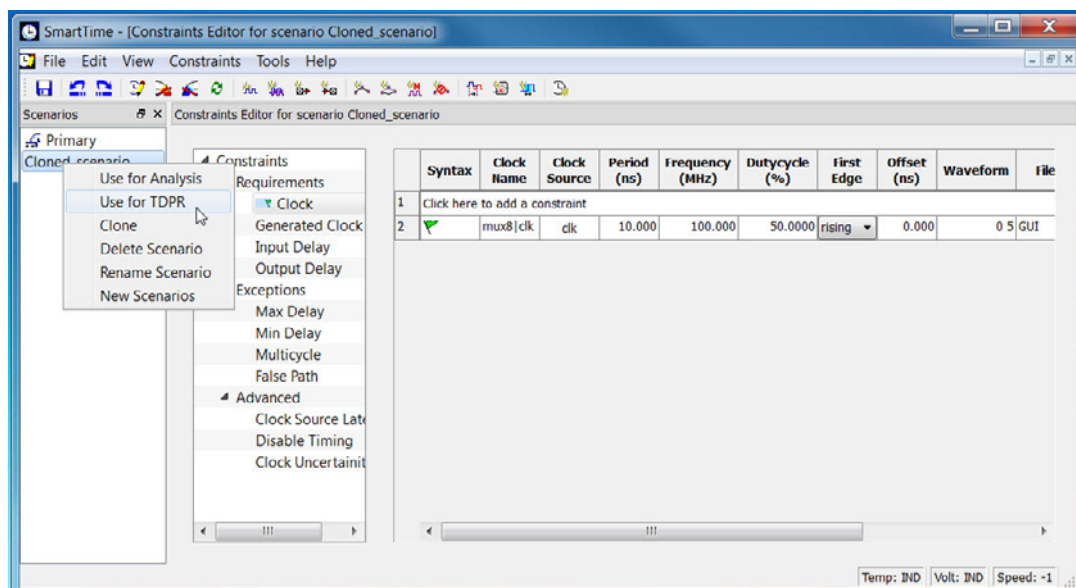

Figure 2-12 • Cloned Scenario for TDPR
4. Use the second set of constraints (cloned scenario) exclusively for TDPR. Right-click Cloned scenario and choose **Use for TDPR** (Figure 2-12).